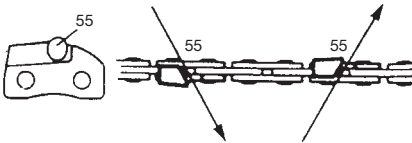

Fig. 42
File (55) cutter on one side of the chain from the inside out. File on forward stroke only. (Fig. 42)